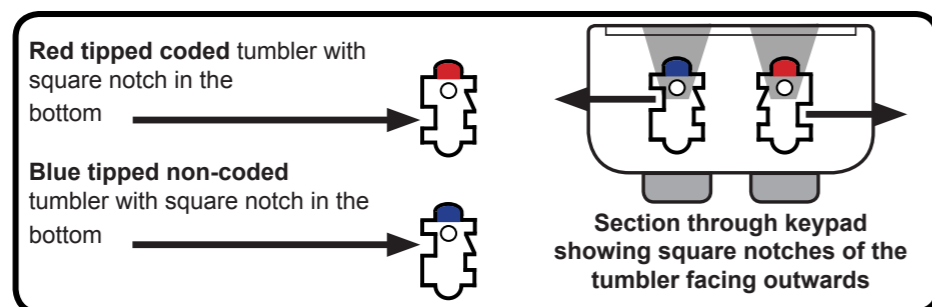

Fig.14
5. Hold the keypad in your hand and press and hold the 'C' button and using the tweezers (Part No.9) reposition the red tumblers to correspond with your new code. The square notches of ALL tumblers MUST face outwards, see Fig.14 below.